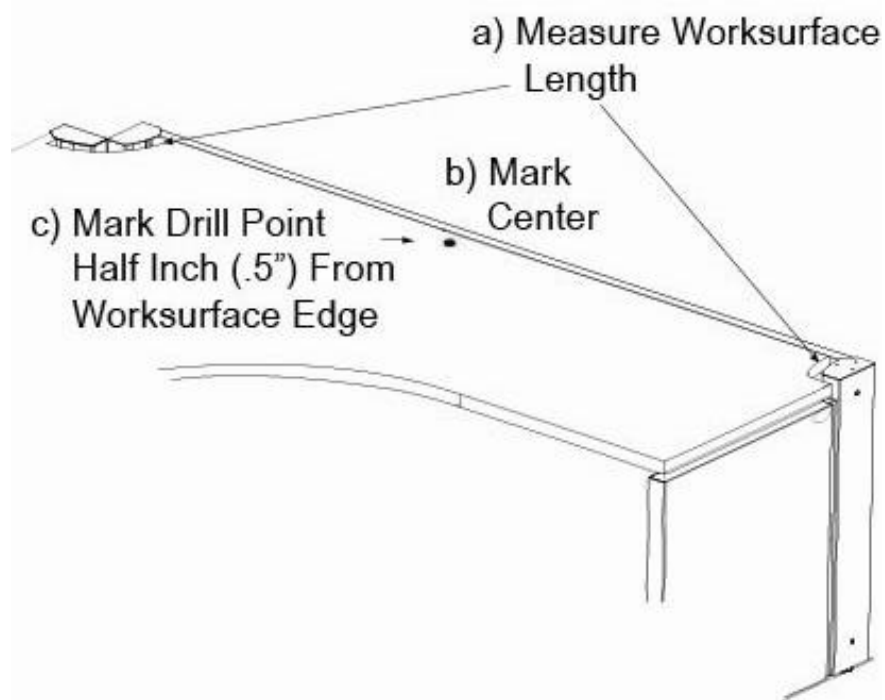

Figure 3: Measure Worksurface Length, Mark Center, Mark .5" Drill Point from Edge
- a) Referring to **Figure 3**, use the tape measure to find the length of the worksurface along the edge where the glass screen will be installed. When measuring, make sure to measure along the outermost edge (closest to the metal stretcher). Write down the measurement.
- b) Using the worksurface measurement found in step a), divide the measurement in half, and mark the center location on the very edge of the worksurface, as shown in **Figure 3**.
- c) From the center mark on the worksurface, measure inward from the edge of the worksurface and mark a drill point half an inch (.5") from the edge. See **Figure 3**.